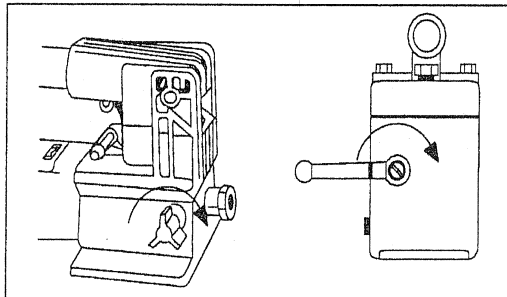

Figure 6
1. Close release valve by turning clockwise, as shown in Figure 6.